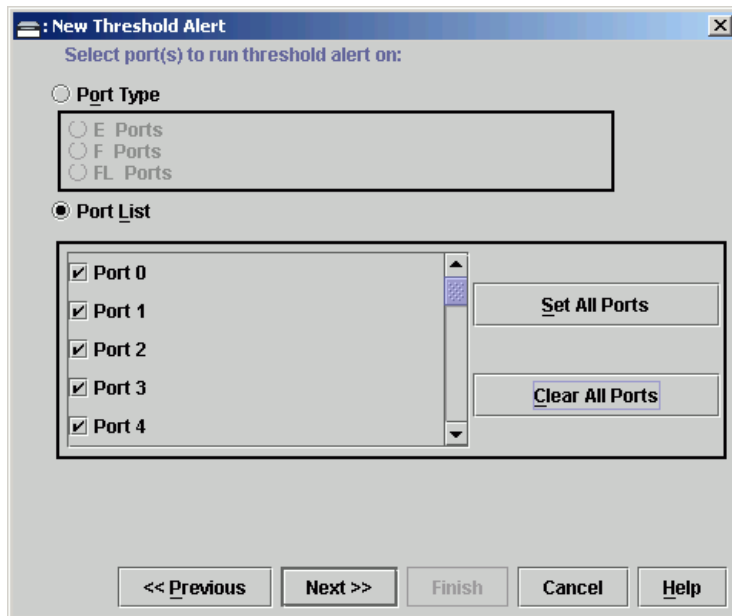

Figure 2-98 New Threshold Alert Dialog Box (Screen 3)
9. Click *Next*. The *New Threshold Alert* dialog box (screen 3) displays (Figure 2-98 on page 2-108).